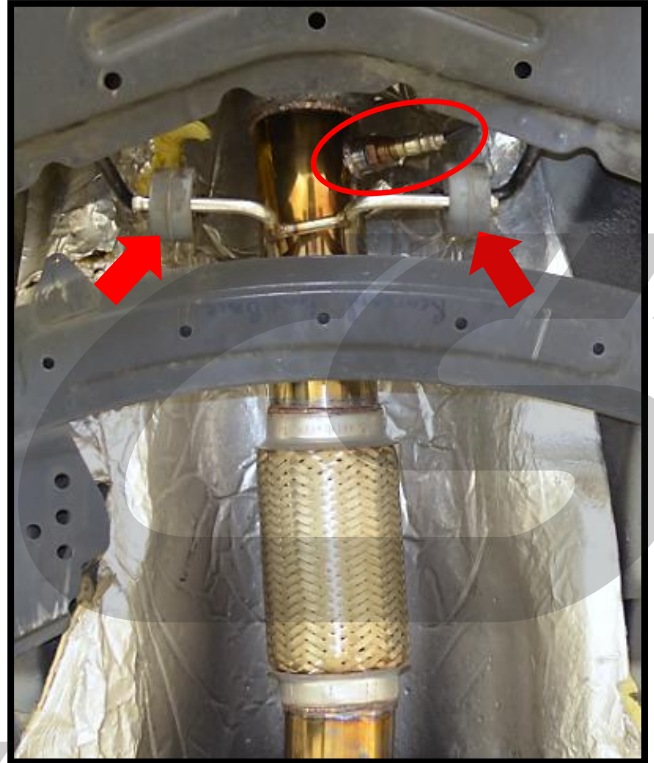

Figure 3g
- h) Remove the lower oxygen sensor with an oxygen sensor socket and ½" ratchet, **circled in red** in **Figure 3g**. If installing a **catted** downpipe, trace the O2 sensor wiring to the plug and remove the sensor and wiring completely. You will install an extension harness later.
- i) Remove the exhaust hangers from the downpipe, shown with the **red arrows** in **Figure 3g**.